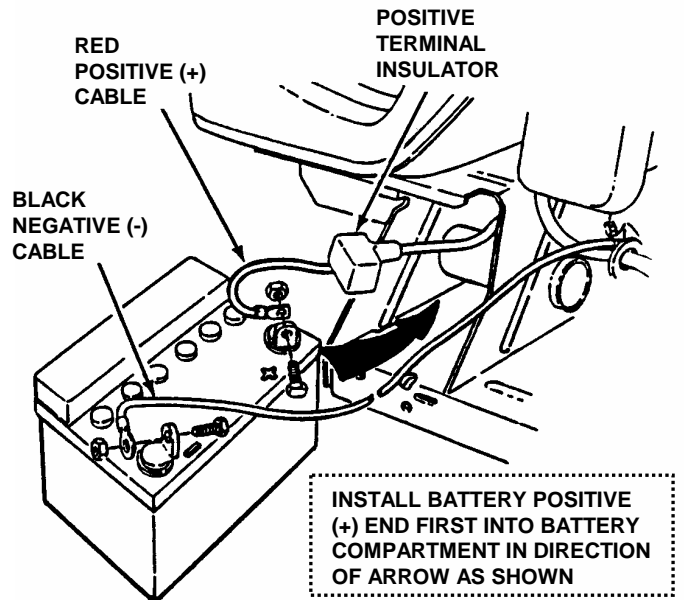

FIGURE 4.18
3. Observe and note cable positions on battery. See Figure 4.18.